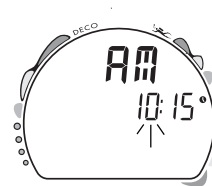

Fig. 24 - Set Time
- After having set and accepted Hour Format, the Set Time screen appears with the Hour Set Point flashing (Fig. 24).